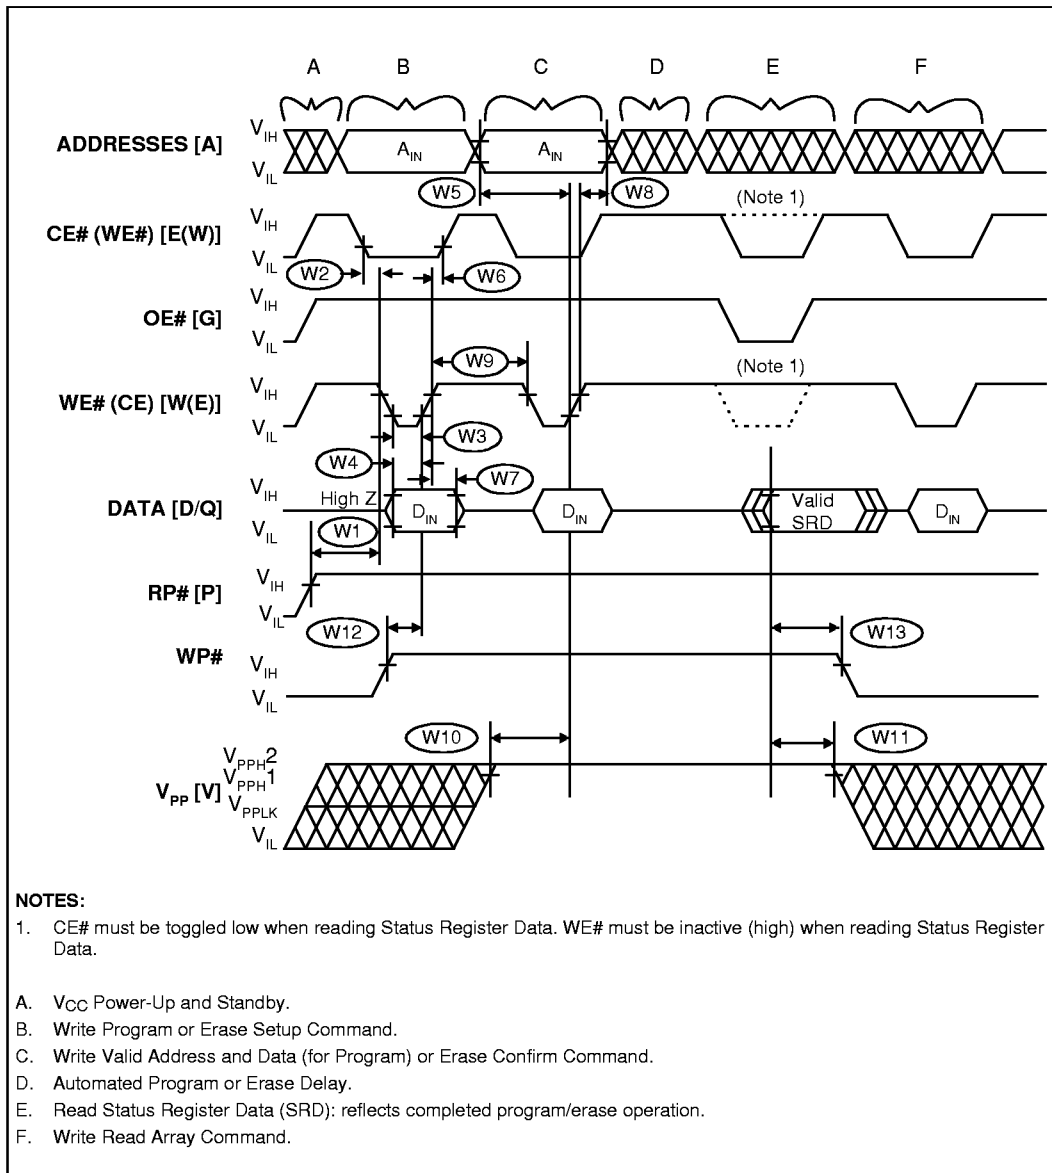

Figure 8. AC Waveform: Program and Erase Operations
- See Figure 8: *AC Waveform: Program and Erase Operations*.